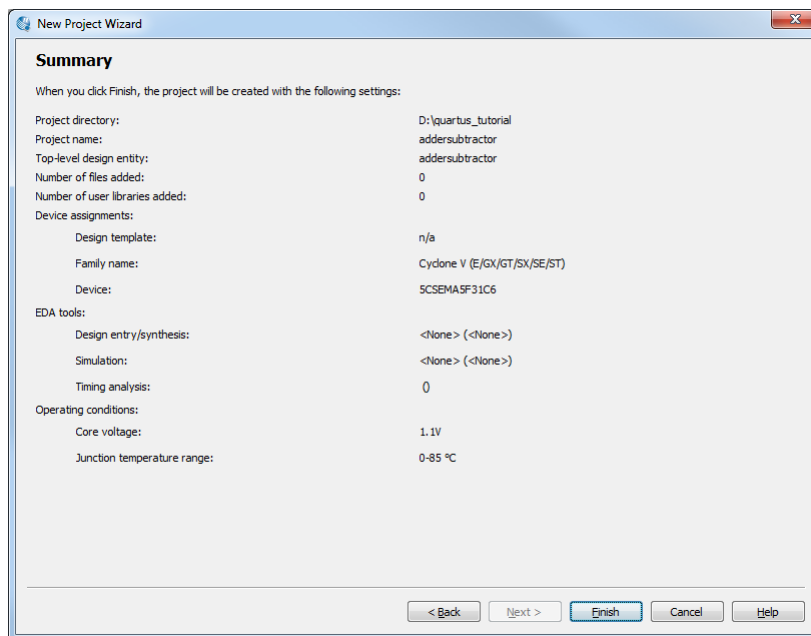
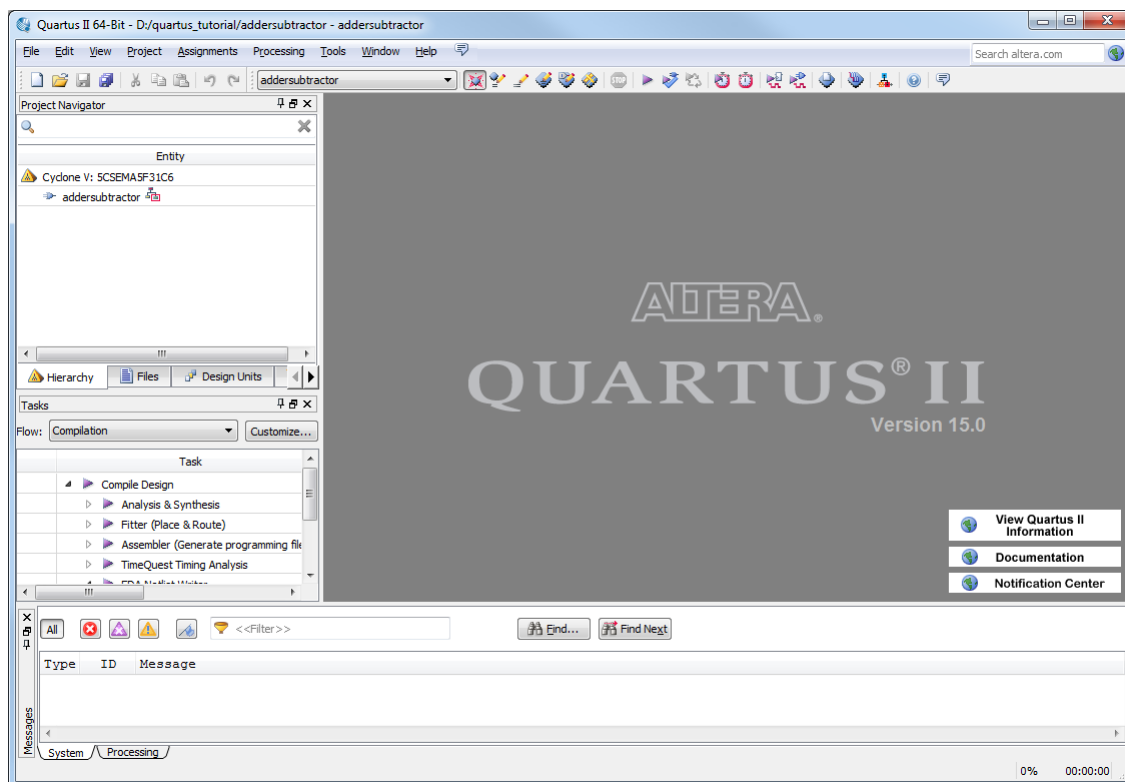

Figure 10: Summary of the project settings.
Figure 11: The Quartus® II display for the created project.
6. In this window we can specify any third-party tools that should be used. A commonly used term for CAD software for electronic circuits is *EDA tools*, where the acronym stands for Electronic Design Automation. This term is used in the Quartus® II messages that refer to third-party tools, which are the tools developed and marketed by companies other than Altera®; other tutorials show how such tools may be used. Since we will rely solely on the Quartus® II tools, we will not choose any other tools. Press **Next**. Now, a summary of the chosen settings appears in the screen shown in Figure 10. Press **Finish**, which returns to the main Quartus® II display. Note that *addersubtractor* is now specified as the current project, as indicated in the title bar at the top of the display. The screen should look similar to that of Figure 11.